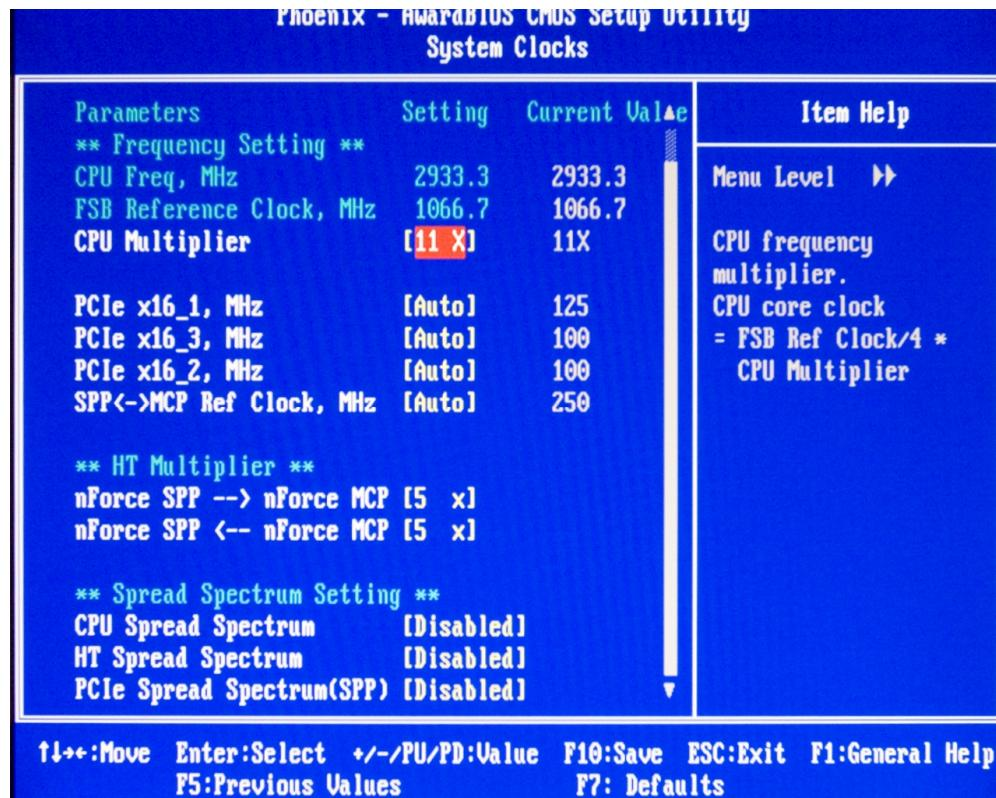

Figure 5. CPU Multiplier Settings
4. Type your desired value and press **ENTER** as shown in Figure 5.